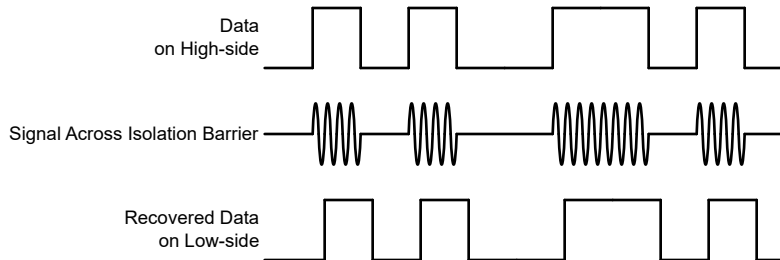

Figure 7-4. OOK-Based Modulation Scheme
The AMC23C14 uses an on-off keying (OOK) modulation scheme, as shown in Figure 7-4, to transmit the comparator output states across the SiO₂-based isolation barrier. The transmit driver (TX) shown in the Functional Block Diagram transmits an internally-generated, high-frequency carrier across the isolation barrier to represent a digital *one* and does not send a signal to represent a digital *zero*.